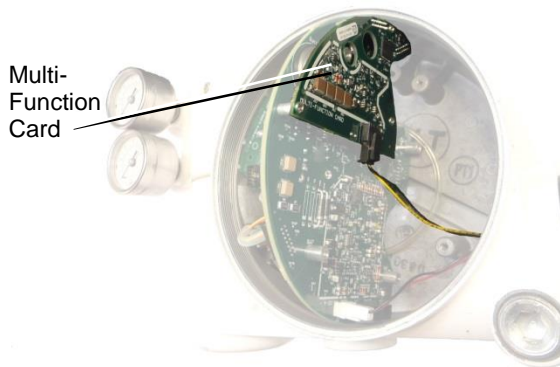

Figure 30: Multi-Function Card
- 8 Unplug the auxiliary card connector from the board (See Figure 30).
- 1 Plug the auxiliary card into the connector in the back of the main board (See Figure 30).
- 2 Plug the auxiliary card connector into the back of the auxiliary (See Figure 30)
- 6 Disconnect the auxiliary card cable if present. See Figure 30.